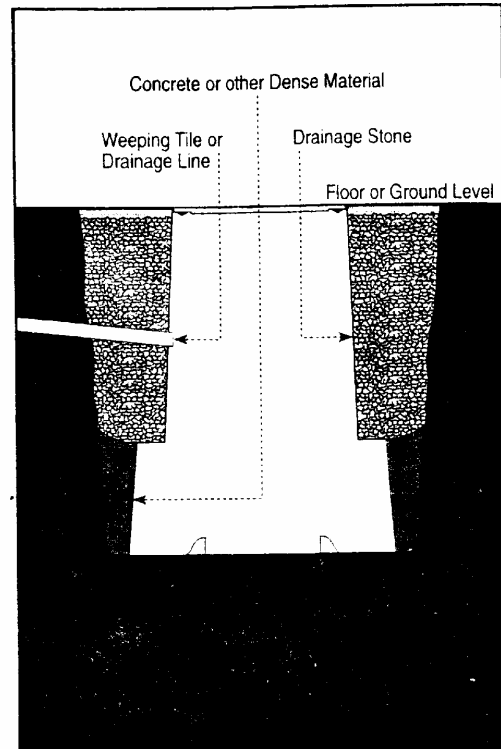

Figure 2
Step 2: To assist in anchoring and to prevent water from escaping the collection system, a concrete mixture or other dense material may be carefully poured around the base of the tank up to the perforated tier (refer to *Figure 2*).